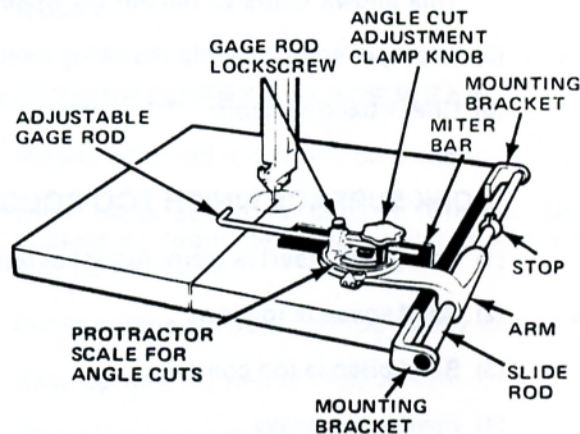

FIG. 22. NO. 2 CUT-OFF & RIPPING OPTION.
- (1) Mitering bar must contact table surface evenly during use. Place a combination square in table slot to check alignment and set bar for sawing at various angles.
- (2) When not being used, the unit can be swung up, to the right, and down on slide rod so it hangs below table surface. See Fig. 22.